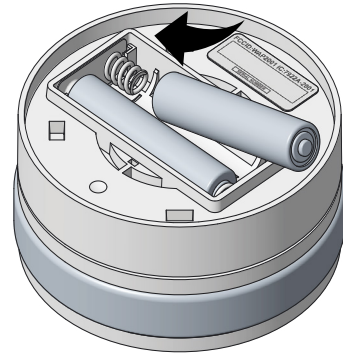

Figure 23.3
3. The appliance receptacle is located on its lower, back right hand corner. Install the cord to the appliance reception and to the wall (Figure 23.3).